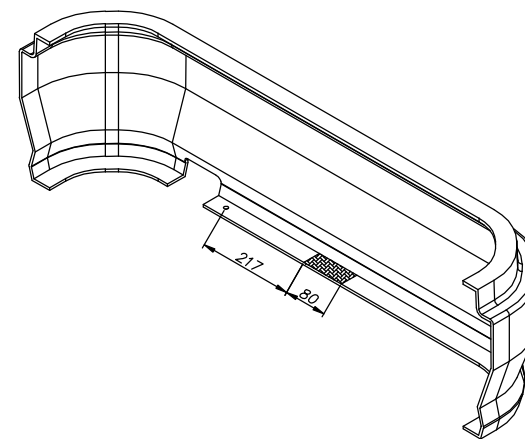

Fig. 2
2. Put main bar of the towbar to the chassis member in this way, so holes of the towbar (pos. A) agree with holes in members and fix using bolts M10x35mm (pos. 5).
3. Reassemble the bumper after cut out its fragment according to fig. 2.
5. Fix body of the automat (pos. 6) and the socket plate (pos. 3) using bolts M12x25mm (pos. 4) from accessories. Place tow-ball (pos. 2) according to supplied instruction.